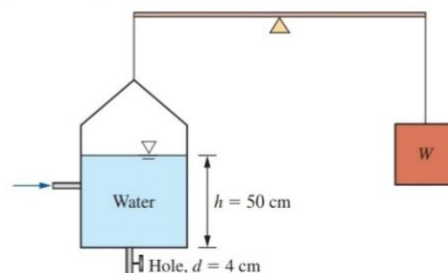

FIGURE P6-41
**6-41** The weight of a water tank open to the atmosphere is balanced by a counterweight, as shown in Fig. P6-41. There is a 4-cm hole at the bottom of the tank with a discharge coefficient of 0.90, and water level in the tank is maintained constant at 50 cm by water entering the tank horizontally. Determine how much mass must be added to or removed from the counterweight to maintain balance when the hole at the bottom is opened.